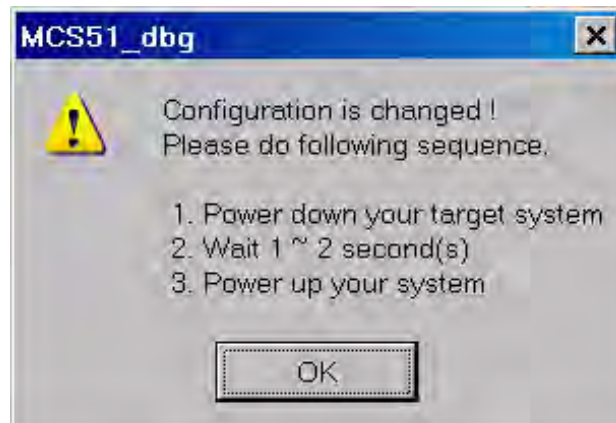

Figure 19. Configuration Is Changed Dialog
8. Select **Enable/Reset input** and click the **Write** button to open the Configuration Is Changed dialog. A typical OCD display, if child windows are open, is shown in Figure 19.